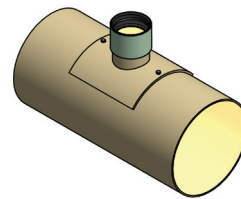

Fig. 64: Placing of the saddle and insertion of the bolting
- 6 Place the saddle and join it to the pipe with the bolts and sleeves on them, inserting them from the inside to the outside. Tighten the bolts with washers (Figure 64).